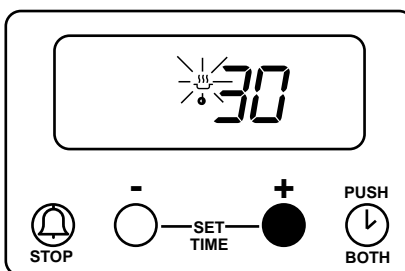

Fig. 13.5
Release button (1) and press and hold button (2). The display will count up in one minute intervals until the interval to be timed is reached e.g. 30 minutes, see Fig. 13.5. If necessary, press and hold button (1) to achieve